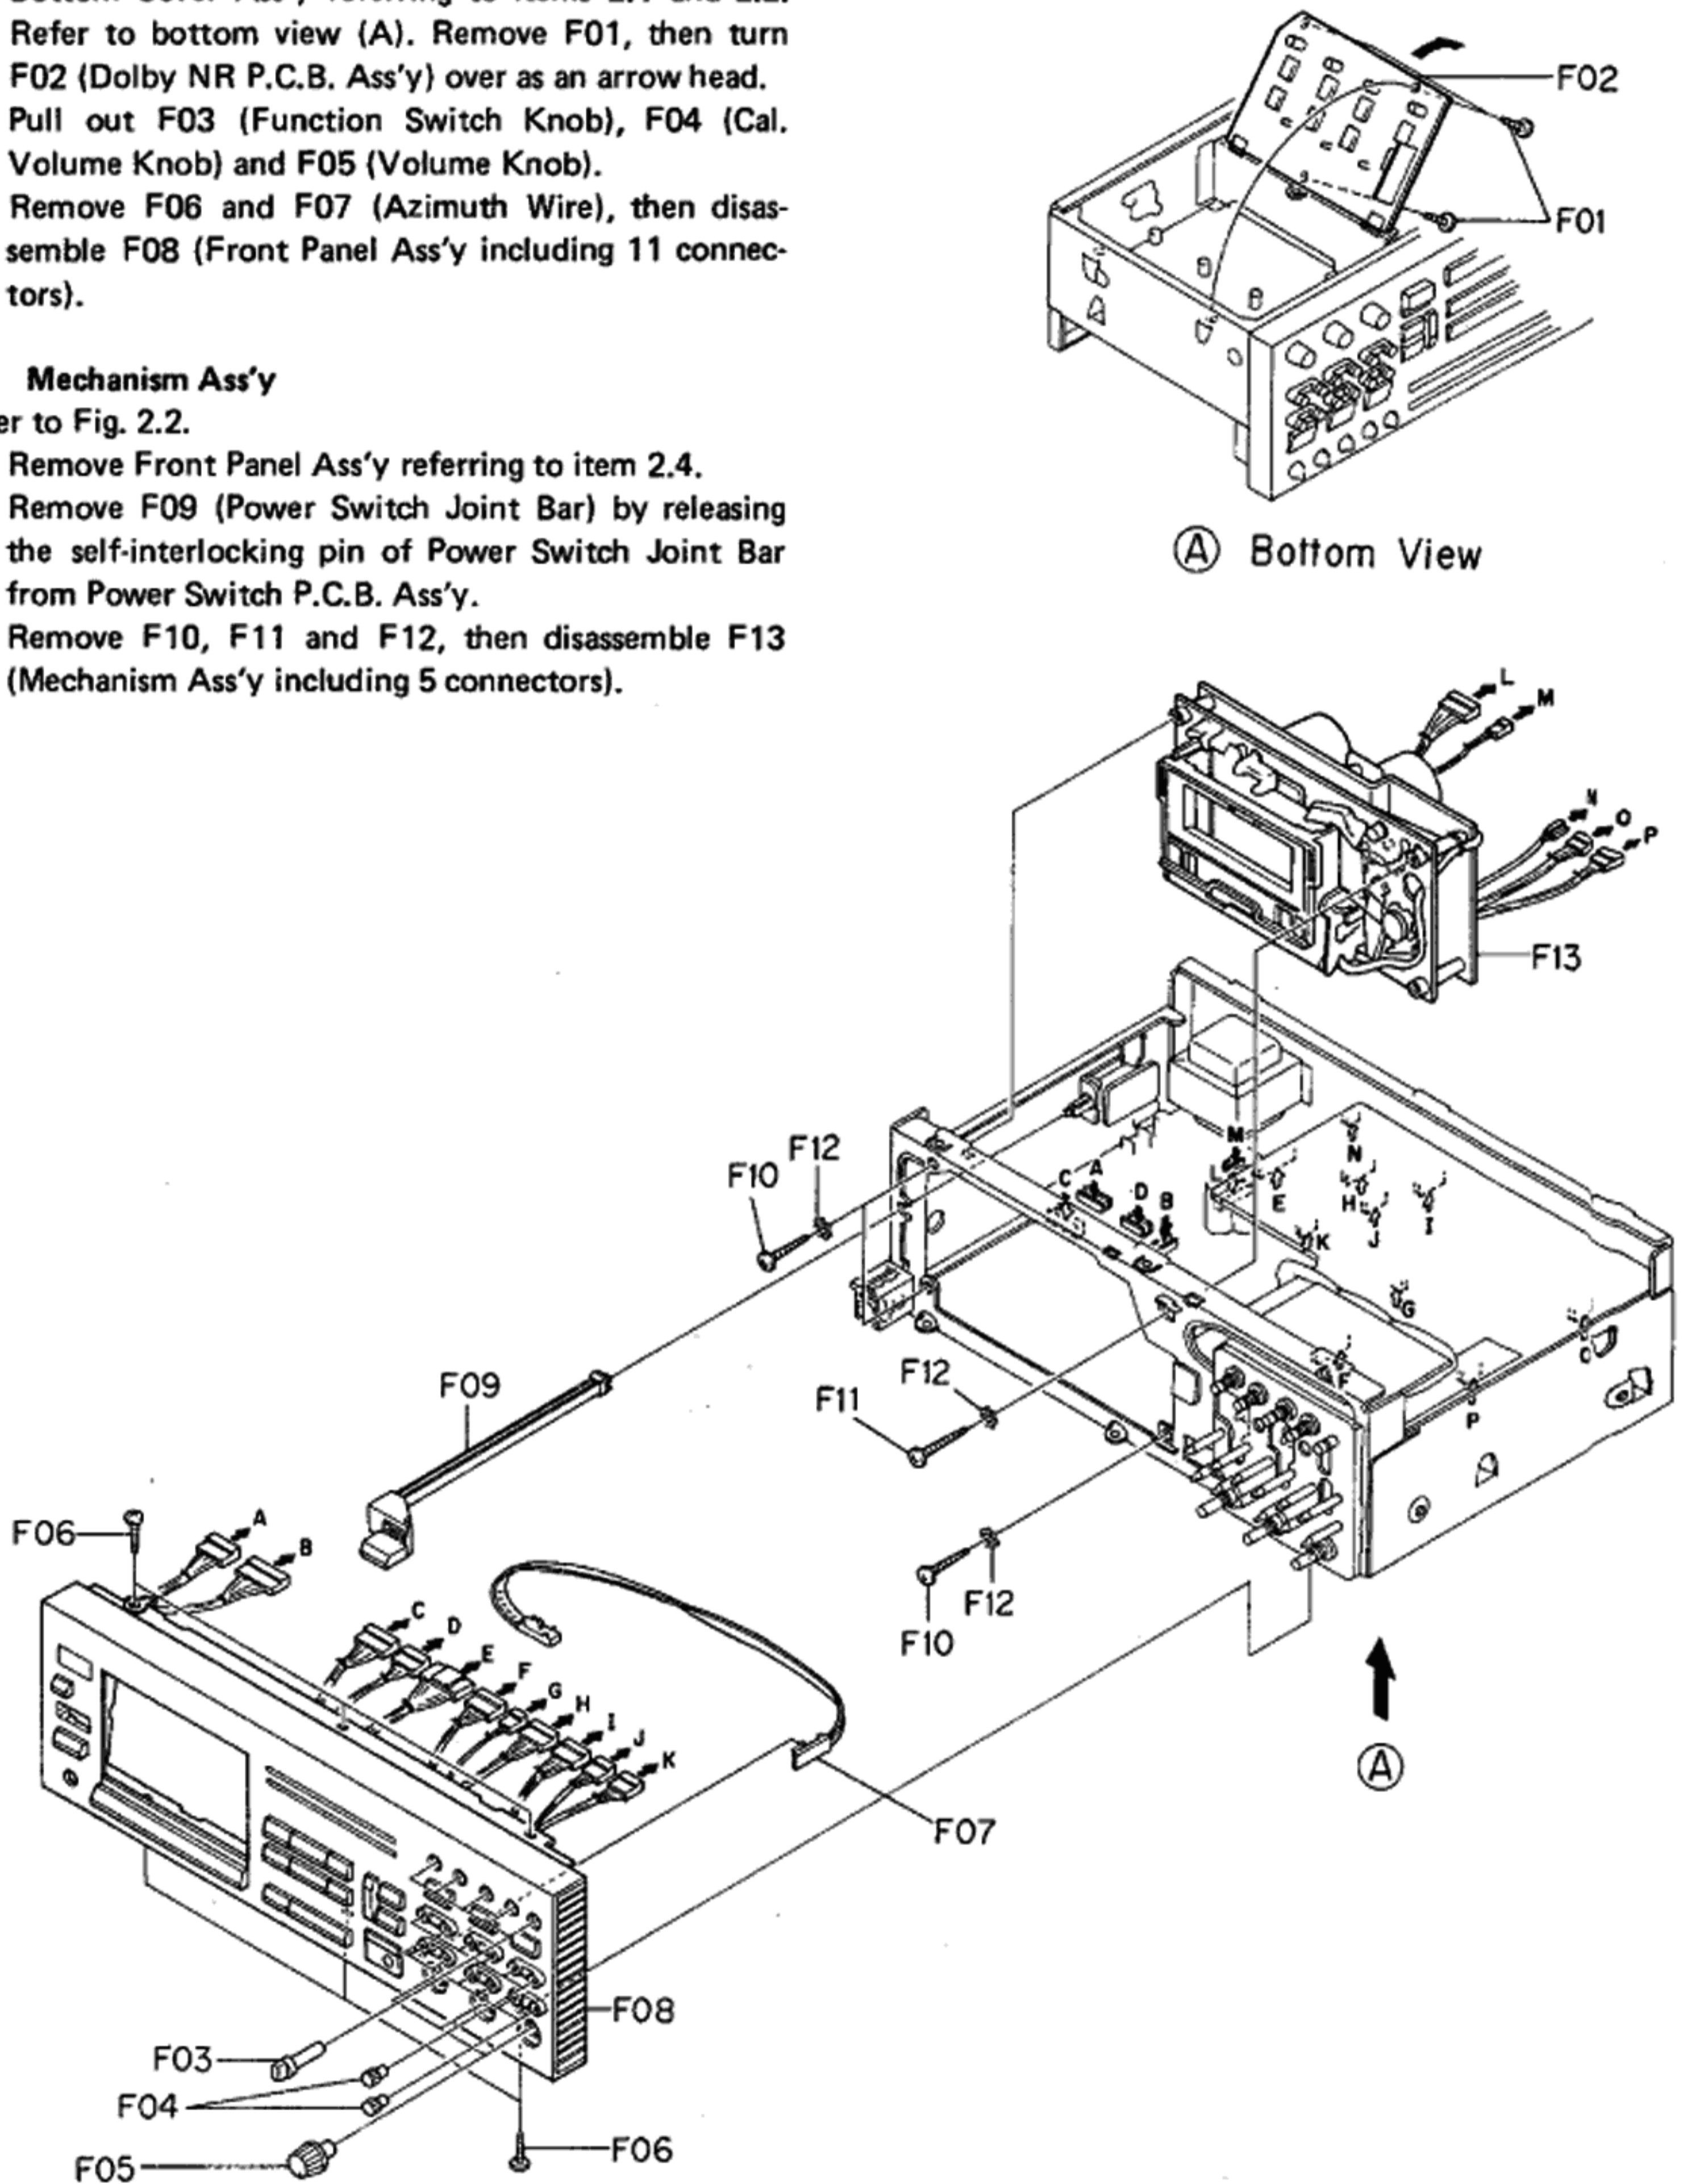

Fig. 2.2
Refer to Fig. 2.2.
- (1) Refer to Fig. 2.2. Remove Front Panel Ass'y referring to item 2.4.
- (2) Remove F06, then disassemble F07 (Azimuth Switch P.C.B. Ass'y).
- (2) Remove F08 (Power Switch Joint Bar) by releasing the self-interlocking pin of Power Switch Joint Bar from Power Switch P.C.B. Ass'y.
- (3) Remove F09, then disassemble F10 (Power Switch P.C.B. Ass'y).
- (2) Remove F11 and F12, then disassemble F13 (Headphone Jack Ass'y).
- (3) Remove F14 and F15, then disassemble F16 (Headphone Jack).
- (2) Remove F01 and F02, then disconnect F03 (Record Cal. P.C.B. Ass'y including one connector) from F17 (Main P.C.B. Ass'y).
- (2) Remove F04, then disassemble F05 (Sub Chassis Ass'y).
- (2) Remove F01, then disassemble F02 (Record Cal. LED P.C.B. Ass'y).
- (3) Remove F03, then disassemble F04 (Shield Case).
- (4) Remove F05 and F06, then disassemble F07 (Indicator P.C.B. Ass'y).
- (5) Remove F08, then disassemble F09 (Control Switch P.C.B. Ass'y).
- (1) Refer to Fig. 2.2. Remove Mechanism Ass'y referring to item 2.5.
- (2) Remove F01, then disassemble F02 (Cassette Case Plate Ass'y).
- (3) Remove F03 (Cassette Case Lamp) from Cassette Case Plate, then pull out F04 (Lamp P.C.B.) from F08 (Cassette Case Ass'y).
- (4) Remove F05 and F06, then disassemble F07 (Cassette Case Holder L Ass'y) by releasing the self-interlocking pin of Damper Lock Arm and F08 (Cassette Case Ass'y).
- (5) Remove F09, then disassemble F10 (Cover Plate Ass'y).
- (2) Remove F01, F02 and F03, then disassemble F04 (Flywheel Holder Ass'y) and F05 (Capstan Belt).
- (3) Remove F06, then disassemble F07 (Capstan Motor Ass'y).
- (4) Remove F08 (Supply Flywheel Ass'y), then disassemble F09 (Take-up Flywheel Ass'y).
- (5) After removing both Flywheel Assemblies, disassemble F10 (Thrust Washer 3mm), F11 (Thrust Washer 2.6mm), F12 (Flange Thrust Cap) and F13 (Flange Thrust Spring).